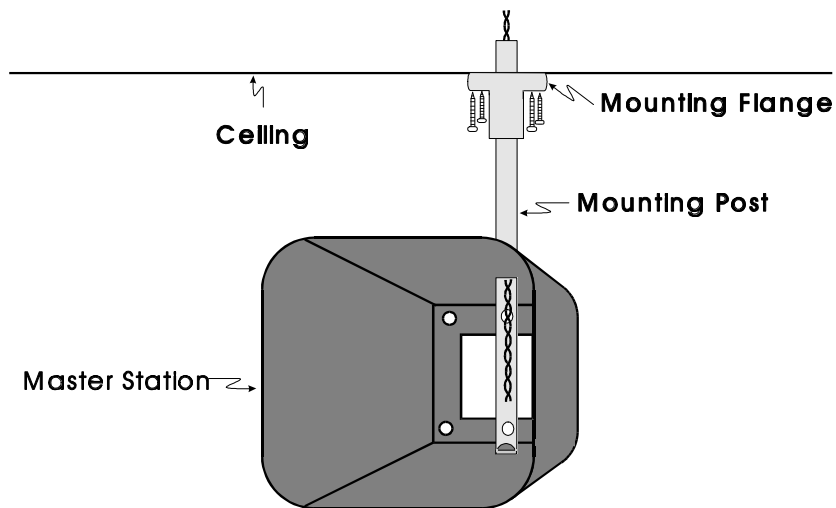

Figure 2A
5. Align the four mounting holes in the #941 Mounting Flange with the screw holes in the mounting surface (Fig. 2A).